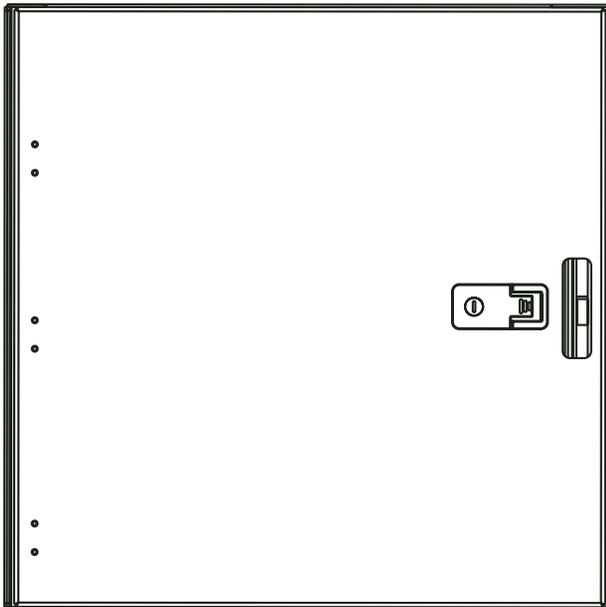

Figure 1
**1.1** This instruction describes the recommended procedure for installation of a Fiber Zone Box (FZB-12P-85-S) (Figure 1). The FZB unit is a multi-user telecommunications outlet assembly intended for zone cabling applications.